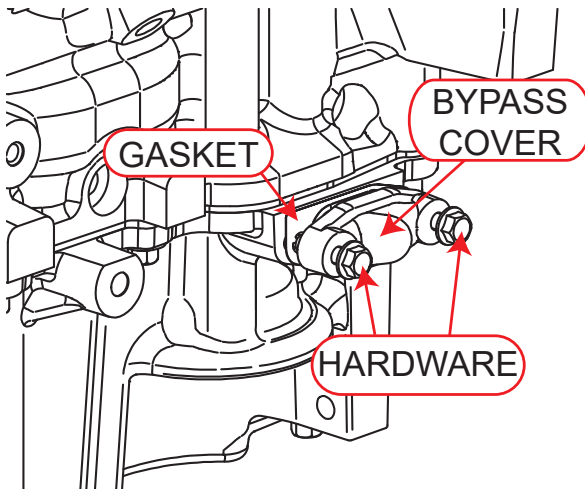

Figure 1 - Removing the factory bypass cover and hardware
4. Remove the two bypass cover flange nuts and/or screws with a 10 mm socket or wrench. Be sure to remove the factory gasket shown in Figure 1.